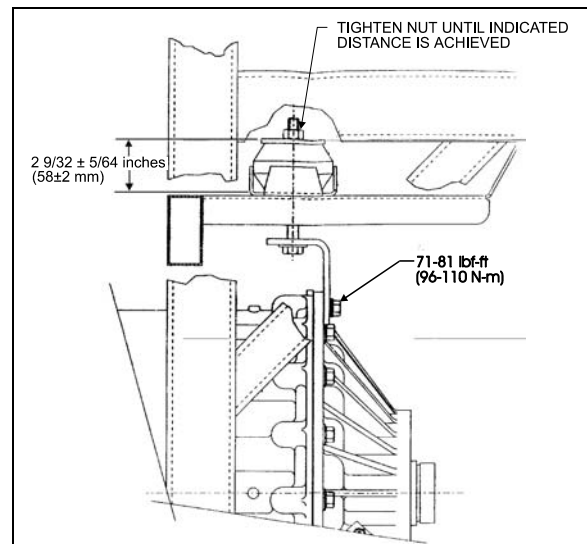

FIGURE 19: RUBBER DAMPER TOLERANCE
- a) Install transmission bracket (Fig. 19), tighten to 71-81 lbf-ft (96-110 Nm).
- c) Respect damper tolerance of 58 mm (Fig. 19)